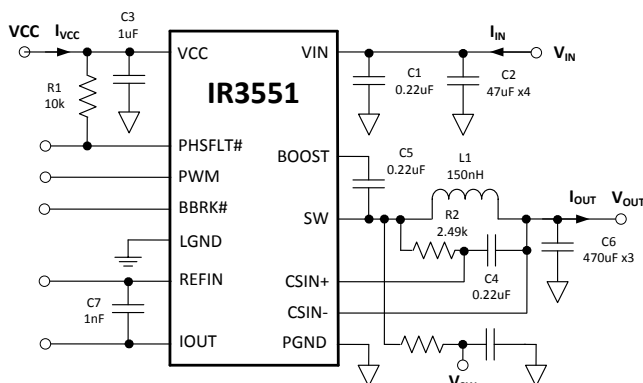

Figure 32: IR3551 Power Loss Measurement
Circuit of Figure 32, $V_{IN}=12V$, $V_{OUT}=1.2V$, $f_{SW} = 400kHz$, $L=150nH$ (0.29mΩ), $V_{CC}=7V$, $T_{AMBIENT} = 25^{\circ}C$, no heat sink, no air flow, 8-layer PCB board of 3.7" (L) x 2.6" (W), no PWM controller loss, no inductor loss, unless specified otherwise.
The single-phase IR3551 efficiency and power loss measurement circuit is shown in Figure 32.